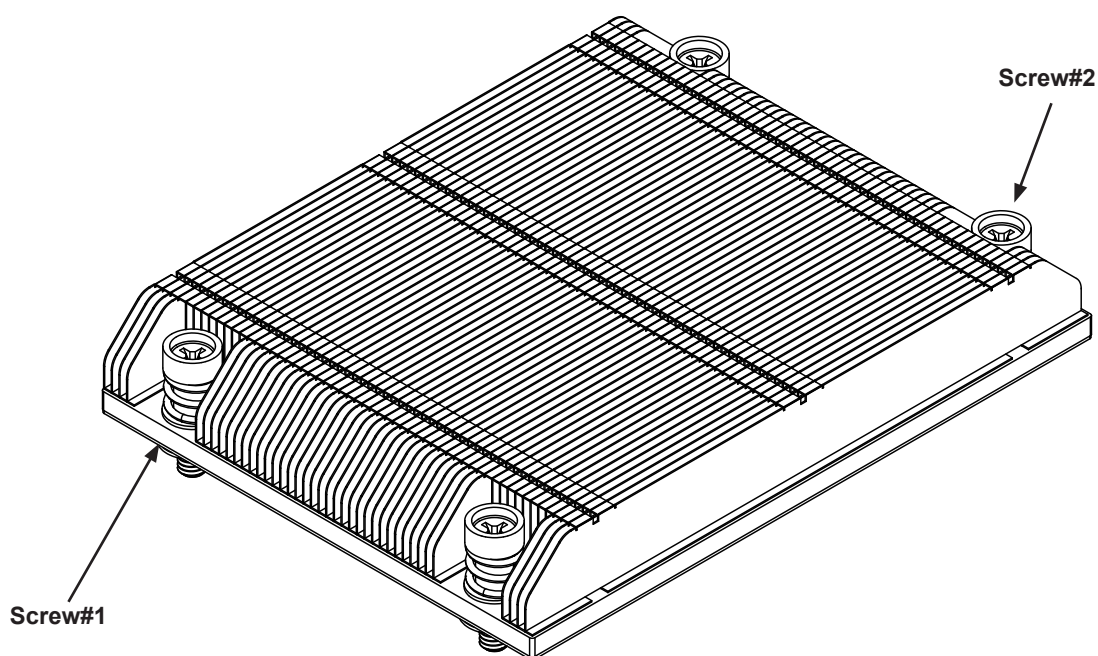

Figure 3-5. Installing/Removing the Heatsink
1. Unscrew and remove the heatsink screws from the motherboard in the sequence as show in Figure 3-5.